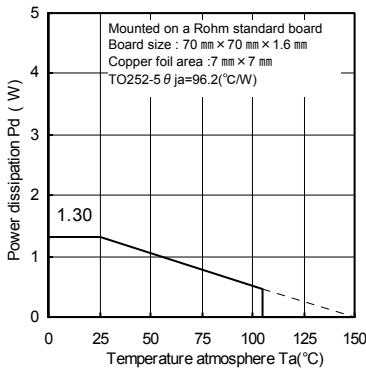
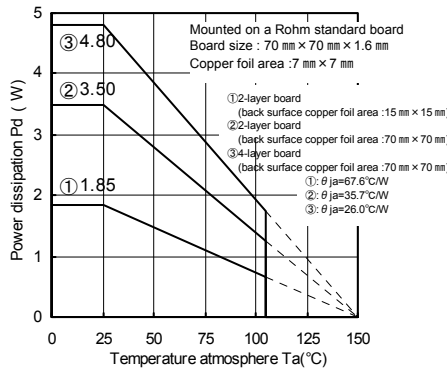
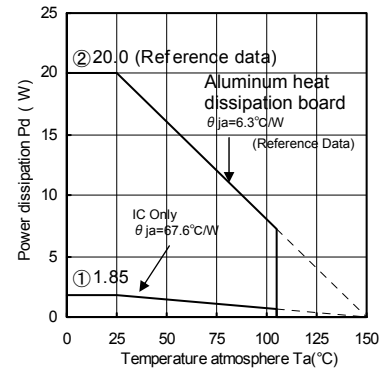

Fig.15
Fig.16(Reference data)
Fig.17
When using at temperatures over  $T_a=25^\circ\text{C}$ , please refer to the heat reducing characteristics shown in Fig.15 and Fig.16. The IC characteristics are closely related to the temperature at which the IC is used, so it is necessary to operate the IC at temperatures less than the maximum junction temperature  $T_{j\text{max}}$ .
Fig.15 and Fig.16 show the acceptable loss and heat reducing characteristics of the TO252-5 package. Even when the ambient temperature  $T_a$  is a normal temperature ( $25^\circ\text{C}$ ), the chip (junction) temperature  $T_j$  may be quite high so please operate the IC at temperatures less than the acceptable loss  $P_d$ .
The calculation method for power consumption  $P_c(\text{W})$  is as follows : (Fig.16③ and Fig.17)
$$I_o \leq \frac{2.496 - 10 \times I_b}{5} \quad \left[ \begin{array}{l} \text{Fig.16③: } \theta_{ja}=26.0^\circ\text{C/W} \rightarrow -38.4\text{mW}/^\circ\text{C} \\ 25^\circ\text{C}=4.80\text{W} \rightarrow 85^\circ\text{C}=2.496\text{W} \end{array} \right]$$
$$I_o \leq \frac{10.4 - 25 \times I_b}{20} \quad \left[ \begin{array}{l} \text{Fig.17(Aluminium heat dissipation board)} \theta_{ja}=6.3^\circ\text{C/W} \rightarrow -160\text{mW}/^\circ\text{C} \\ 25^\circ\text{C}=20\text{W} \rightarrow 85^\circ\text{C}=10.4\text{W} \end{array} \right]$$